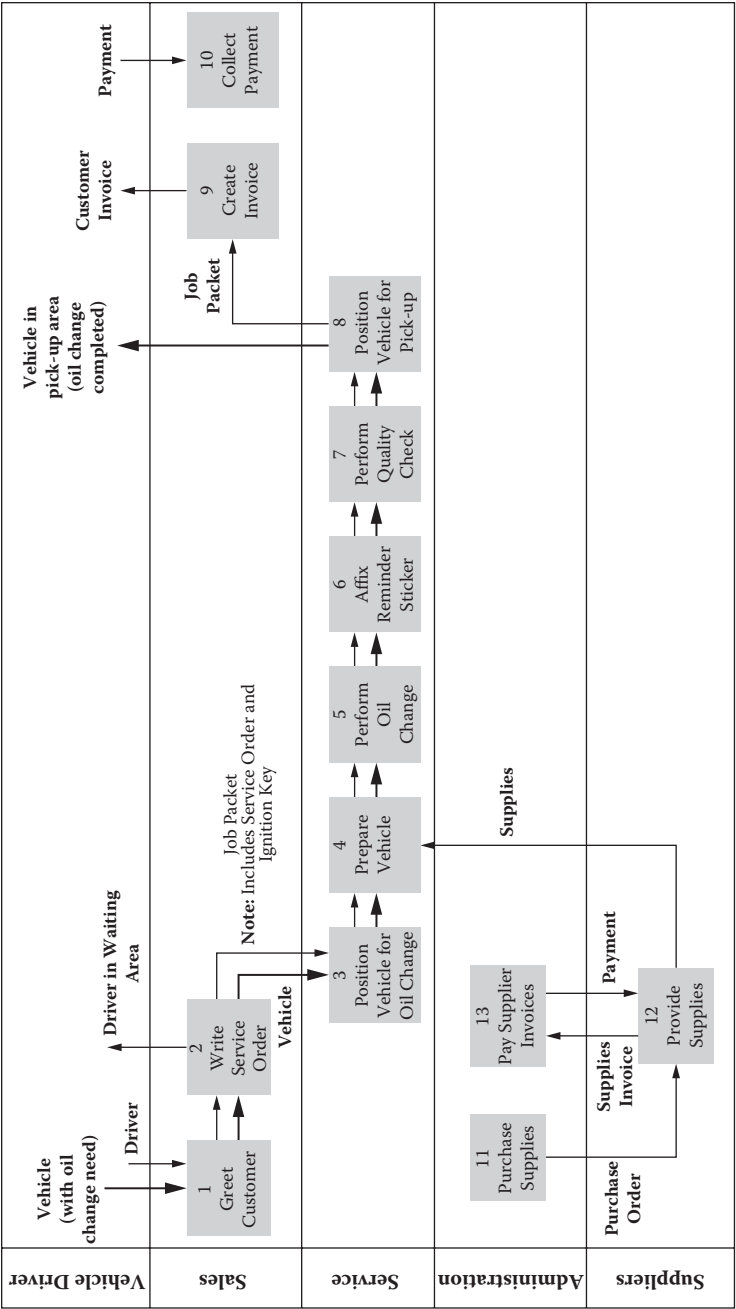

Figure A.16 Swimlane diagram (partial) with outputs and connections added.
6. Add and label all inputs and outputs (Figure A.16).